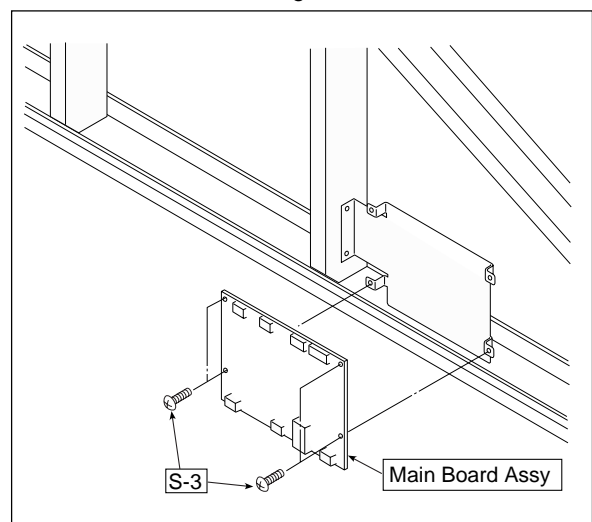

Fig. 4
2. Remove the "S-3" screws shown in Fig. 4 and then remove the Main Board Assy.